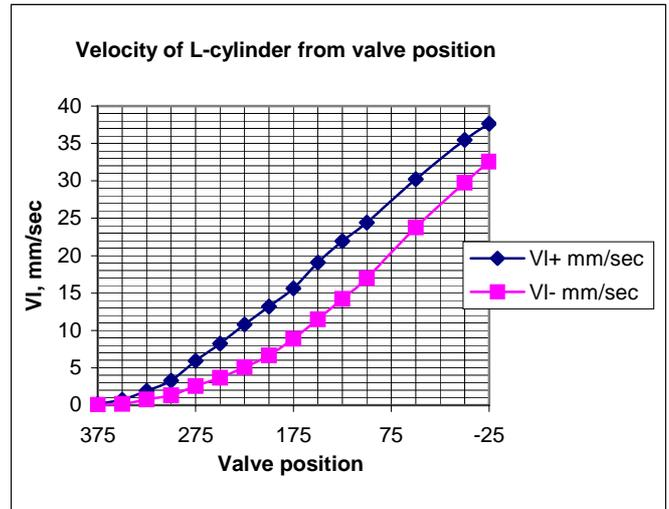

Fig.6. Velocity in L+-directions as a function of valve position.
3. Turn valves of the oil hydraulic system to desired positions. Velocity dependences of the oil hydraulic cylinders are shown on Fig.6, 7,8.